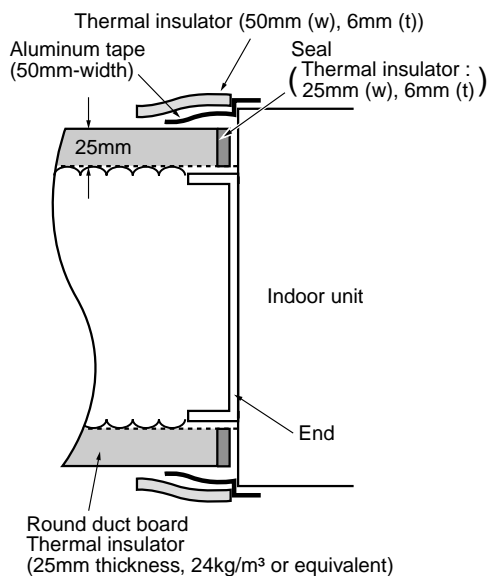

Fig. 1
2. Connect the flange and each type of duct. (Fig. 1)